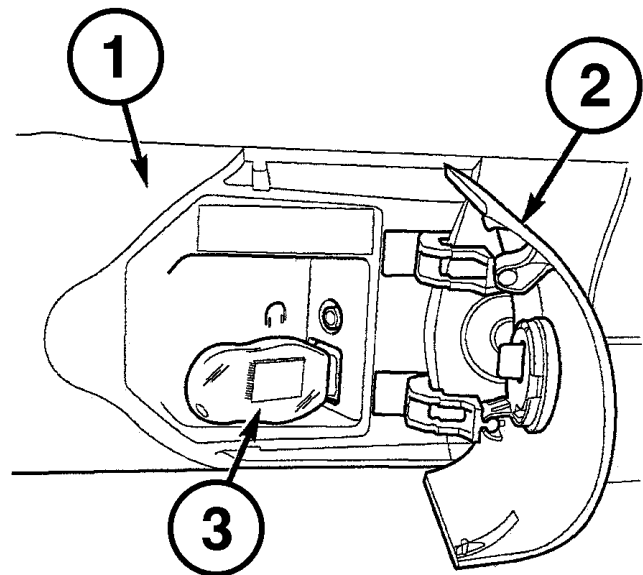

FIGURE 1
2. Insert the USB key into the USB port on the TechCONNECT PC (Figure 1).